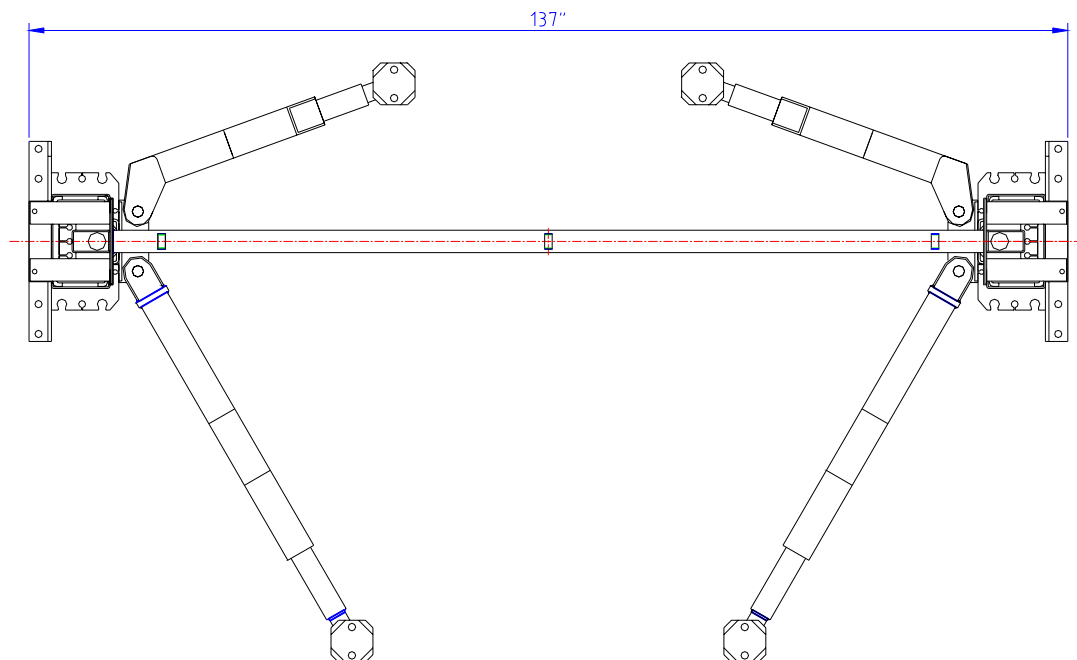

Figure 2
- A. Always use an architect's plan when provided. Before unpacking the lift entirely, determine if the site is adequate for the lift model being installed see figures 2 and 3 for typical bay layout and ceiling height requirements.
- A. Raise the Mainside leg only and position it where it is to be secured, figure 2.
- I. Raise the offside leg and position it where it is to be located, figure 2. **Do not drill holes for anchors.**